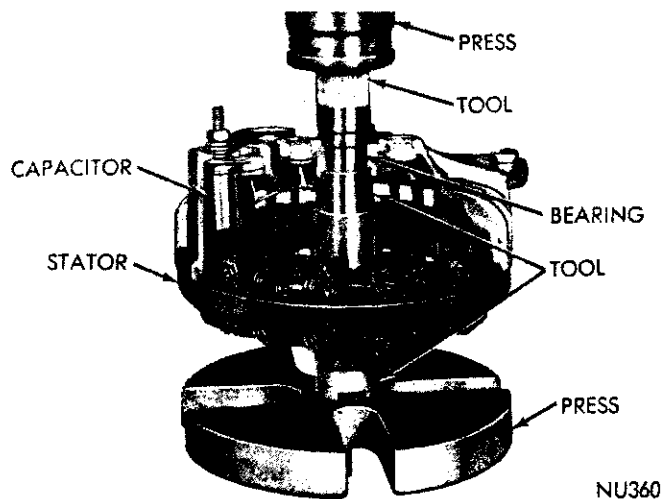
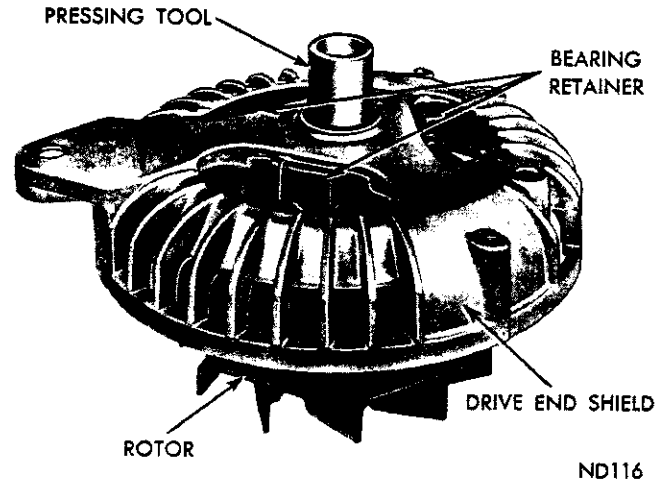

Fig. 30—Installing Rectifier End Shield Bearing
Fig. 31—Installing Drive End Shield Bearing
(6) Support end shield on Tool C-3925 so that notches in the support tool will clear the raised section of the heat sink and press the bearing into position with Tool SP-3381 (Fig. 30), until bottomed on support tool. **New bearings are pre-lubricated, additional lubrication is not required.**
(7) Insert drive end bearing in drive end shield and install bearing retainer plate to hold bearing in place.
(8) Position bearing and drive end shield on rotor shaft and, while supporting base of rotor shaft, press bearing and shield into position on rotor shaft with arbor press and Tool C-3858 (Fig. 31).